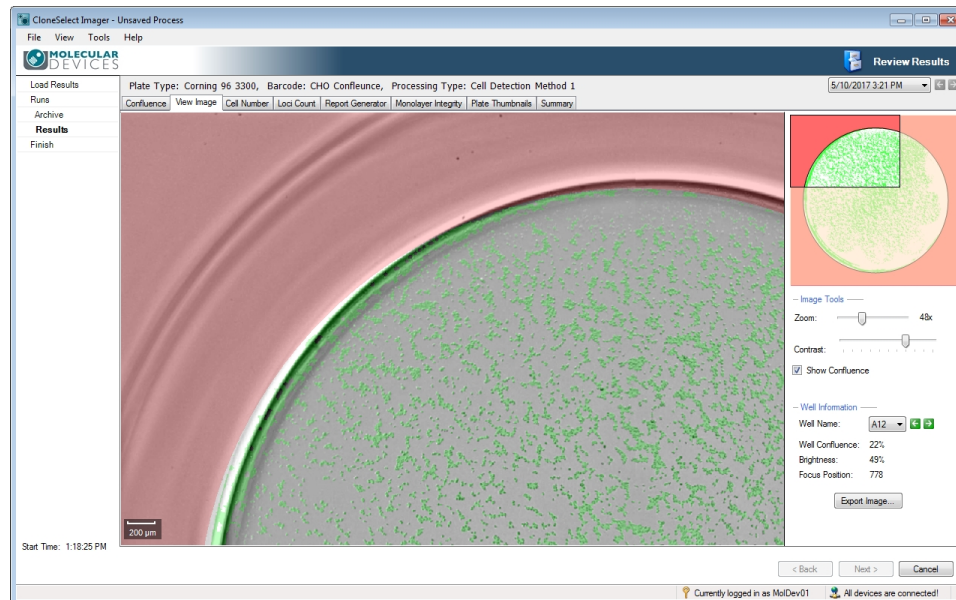

Figure 4-7: View Image screen
2. In the **View Image** tab screen (Figure 4-7), you can use the following controls: